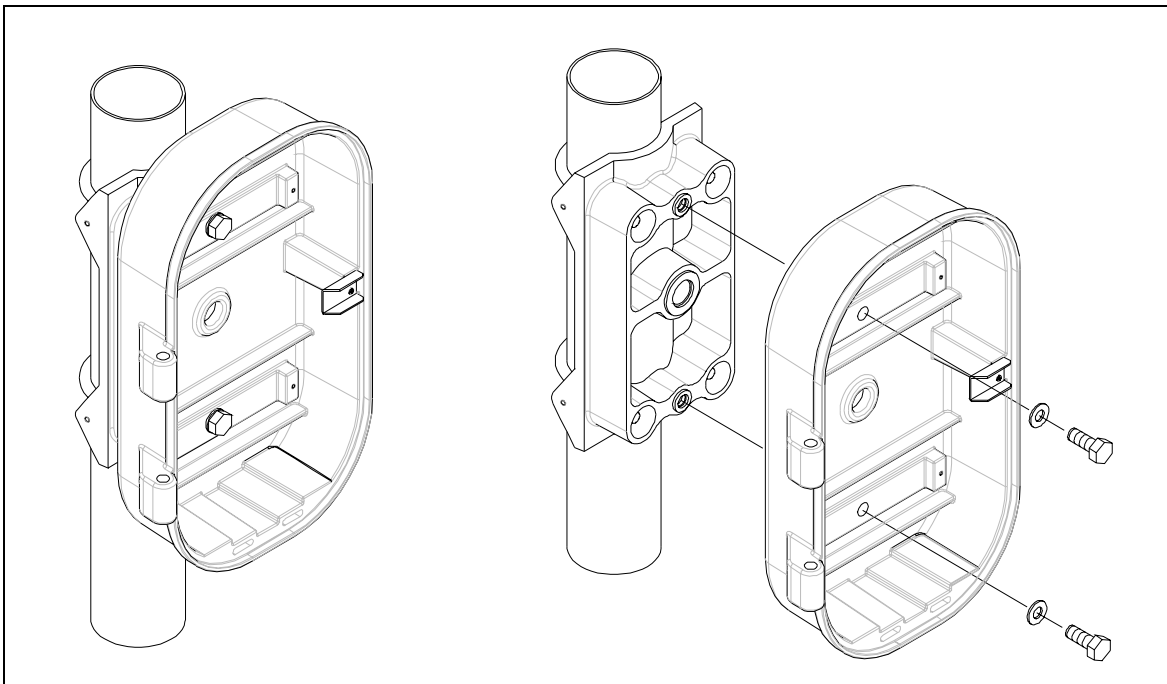

Figure 3. Mounting Call Box to Pole Mounting Bracket
5. Mount the call box rear section using the two bolts provided to mate the call box to the mounting bracket holes. Refer to Figure 3 above. Tighten the bolts to a torque of 20 foot-pounds.